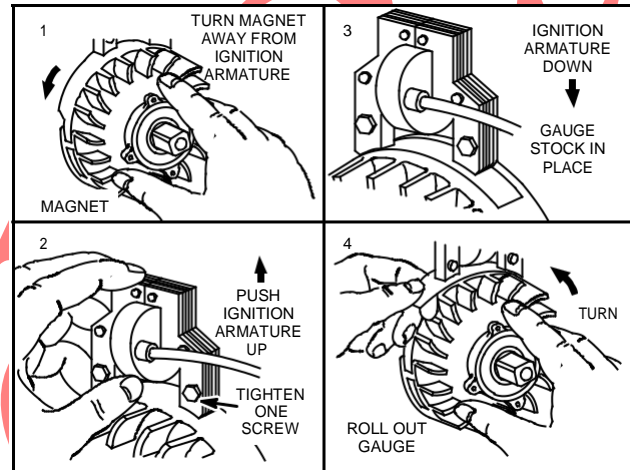

Fig. 104 – ADJUSTING IGNITION ARMATURE AIR GAP
7. Rotate flywheel until gauge is free, Fig. 104.